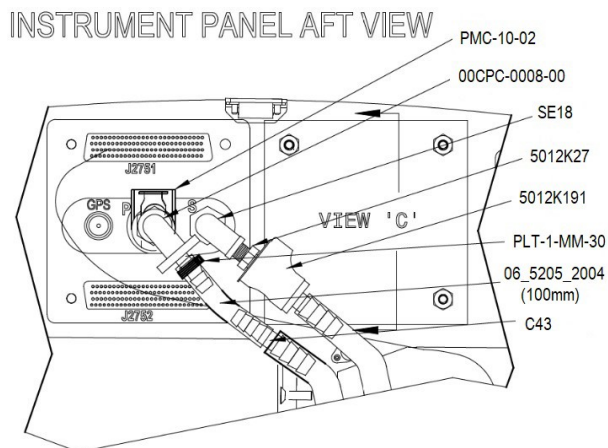

Figure 5. Pitot, static connections.
12. Modify the existing Pitot/static hoses previously routed to the standby altimeter and airspeed indicator to the GI 275 as shown in Figure 5.